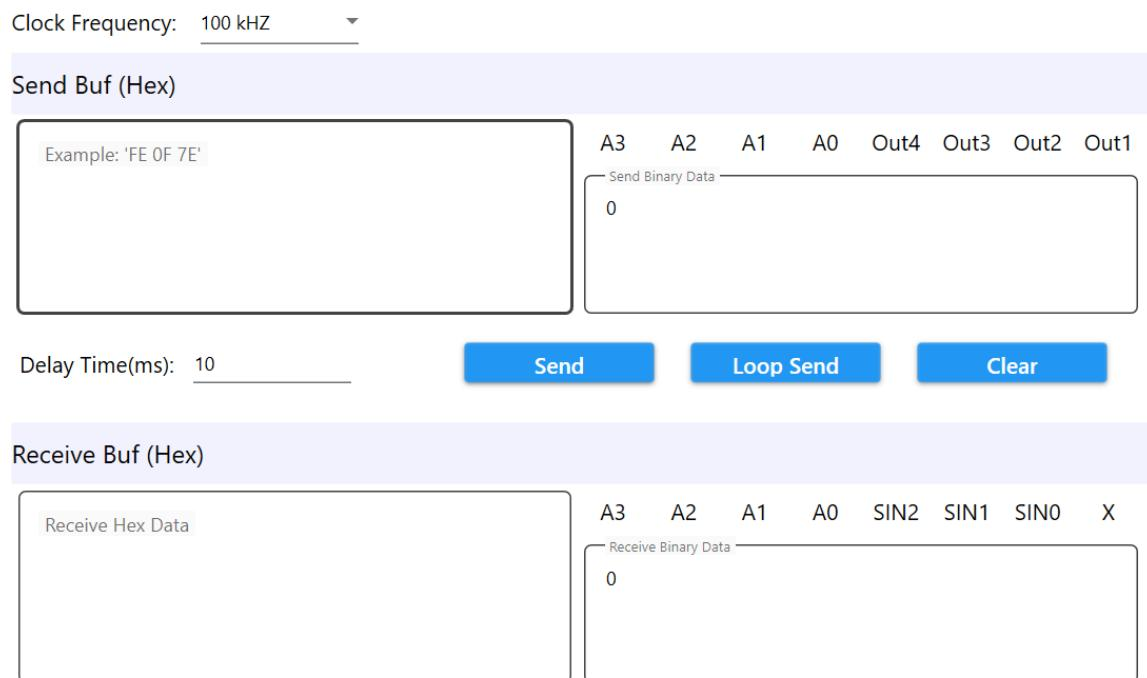

Figure 2: GUI Operation Configuration
To configure the device using the graphic user interface (GUI), refer to Figure 2 and follow the steps below:
3. Set the delay time (denoted as “Delay Time” in Figure 2) under the Send Buf section. The delay time is set between two bytes. Typically, its default value is used.